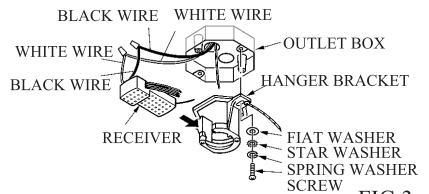

FIG.3
1. Securely attach the hanger bracket to the outlet box by washers and screws supplied. Connect white wire from ceiling to white wire from receiver with wire nut. Connect black wire from ceiling to black wire from receiver with wire nut. (see Fig.3)
Remove the battery cover on the back of the transmitter and insert the battery provided. Make sure the "+" "-" sign is correct. (FIG.3)